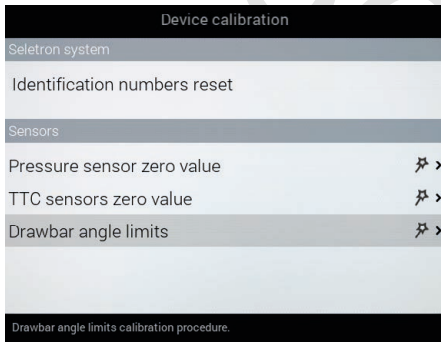

Fig. 42
- 1 Select the item **Drawbar angle limits** (Fig. 42) and press **OK**.